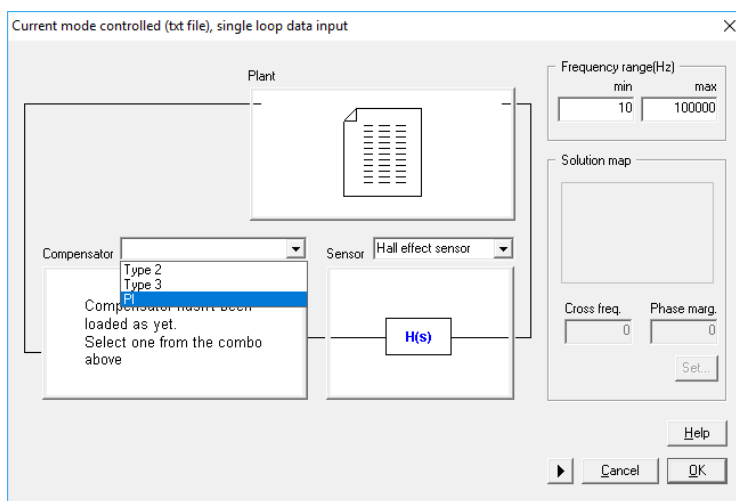
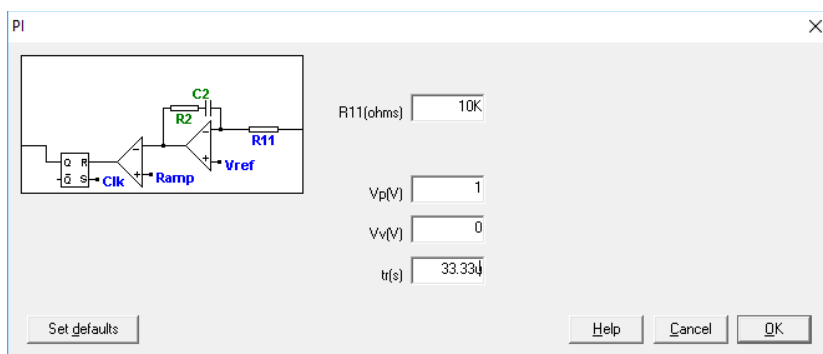

Figure 10: Compensator choice
Figure 11: PI compensator parameters
4. Select a PI compensator. See Figure 10 and type the values shown in Figure 11.
For an equivalent analog implementation of the compensator, it is necessary to set the modulator gain and the value of the resistance "R11". In this case the resistance value is not important because the PI regulator to be implemented in PSIM is given by the values of the proportional gain and the time constant. Once the values of Figure 11 have been introduced press OK.